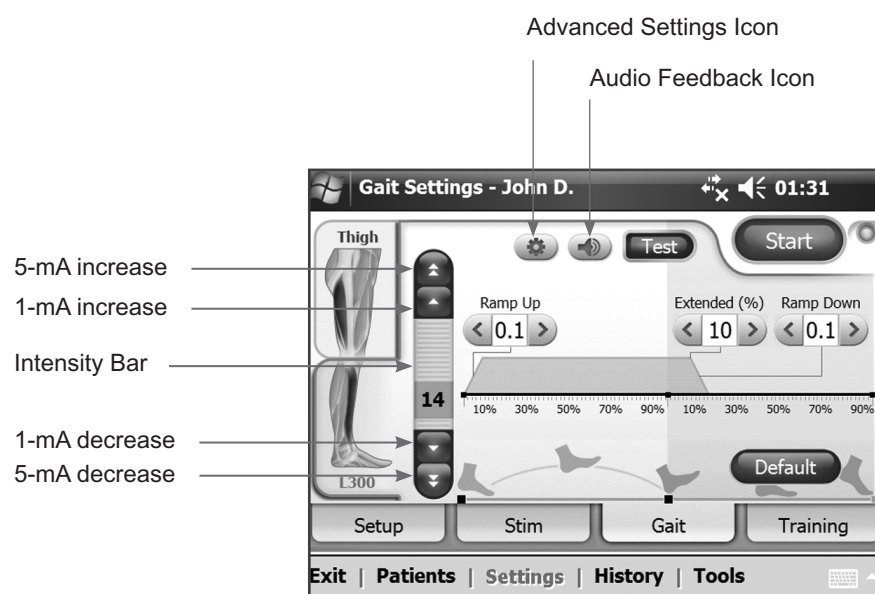

Figure 7-22: **L300 tab**, Gait Settings window.
1. Press the **Gait tab** and the **L300 tab**. See Figure 7-22.